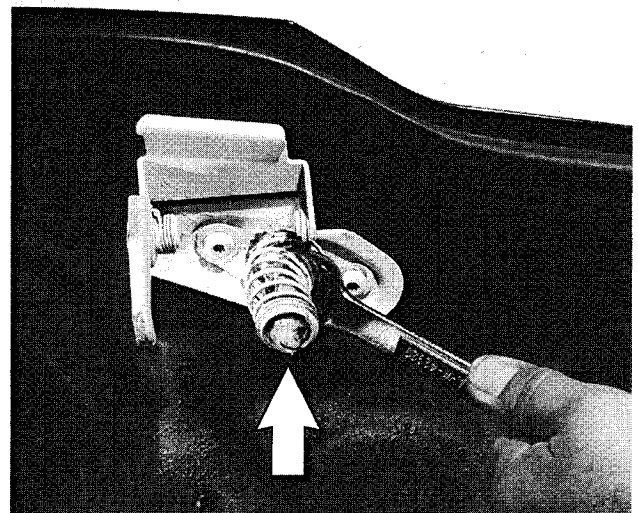

Fig. 12. To lengthen spring pin, loosen locknut with wrench inserted through spring, then turn pin (arrow) counterclockwise.
6. Test hood for correct closure and opening. If hood does not spring open, lengthen spring pins at latches. See Fig. 12.